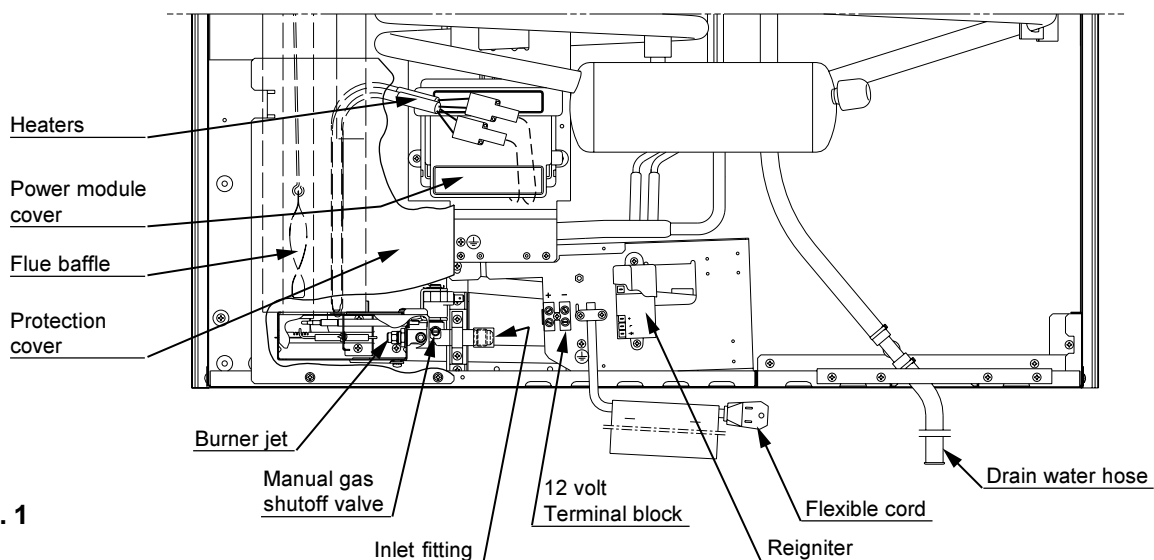

FIG. 1
The refrigerator models NDR 1492-S and NDR 1492-B require a continuous 12 volt DC supply (even though 2-way models are designed to operate on 120 volts AC and gas, a 12 volt DC control is required to maintain the automatic energy system). The connection is made to the positive (+) and negative (-) terminals of the terminal block on the back of the refrigerator. (See FIG. 1). Correct polarity must be observed when connecting to the DC supply.
2. Check that the gas flame is lit and the GAS mode indicator lamp (C) is on.
3. Close the manual gas shutoff valve at the back of the refrigerator. (See FIG. 1).
4. Wait for one minute. The CHECK indicator lamp (D) should be on and the GAS mode indicator lamp (C) should be off.
5. Remove protection cover (see FIG. 1) and open the manual gas shutoff valve. Do not change any button positions on the control panel. Apply a noncorrosive commercial bubble solution to the burner jet orifice.
7. If no bubbles were present at the burner jet orifice, it should be rinsed with fresh water. Be careful not to damage the burner jet orifice. Replace cover and press the main power ON/OFF button (1) OFF and back ON. Normal operation of the burner should return. Allow the burner to operate for a minimum of five minutes.